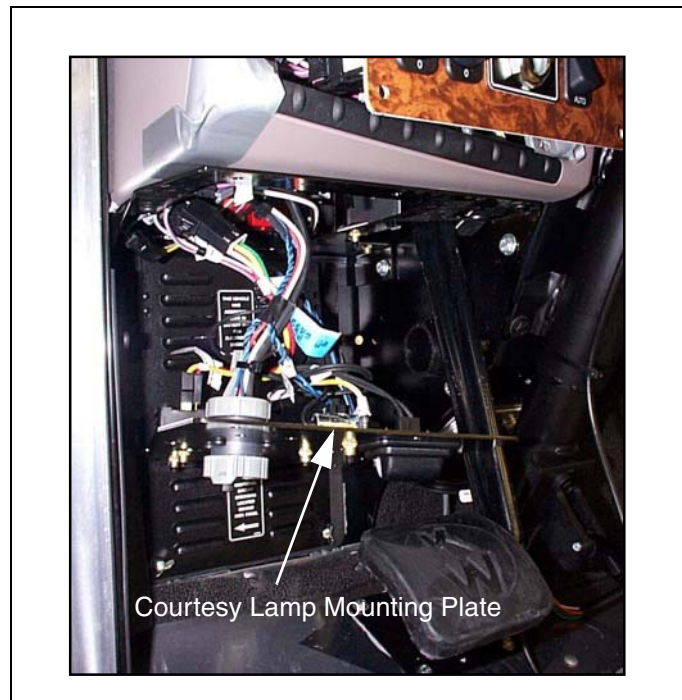

Figure 15-5
2. Allow plate to hang loose. See Figure 15-5.